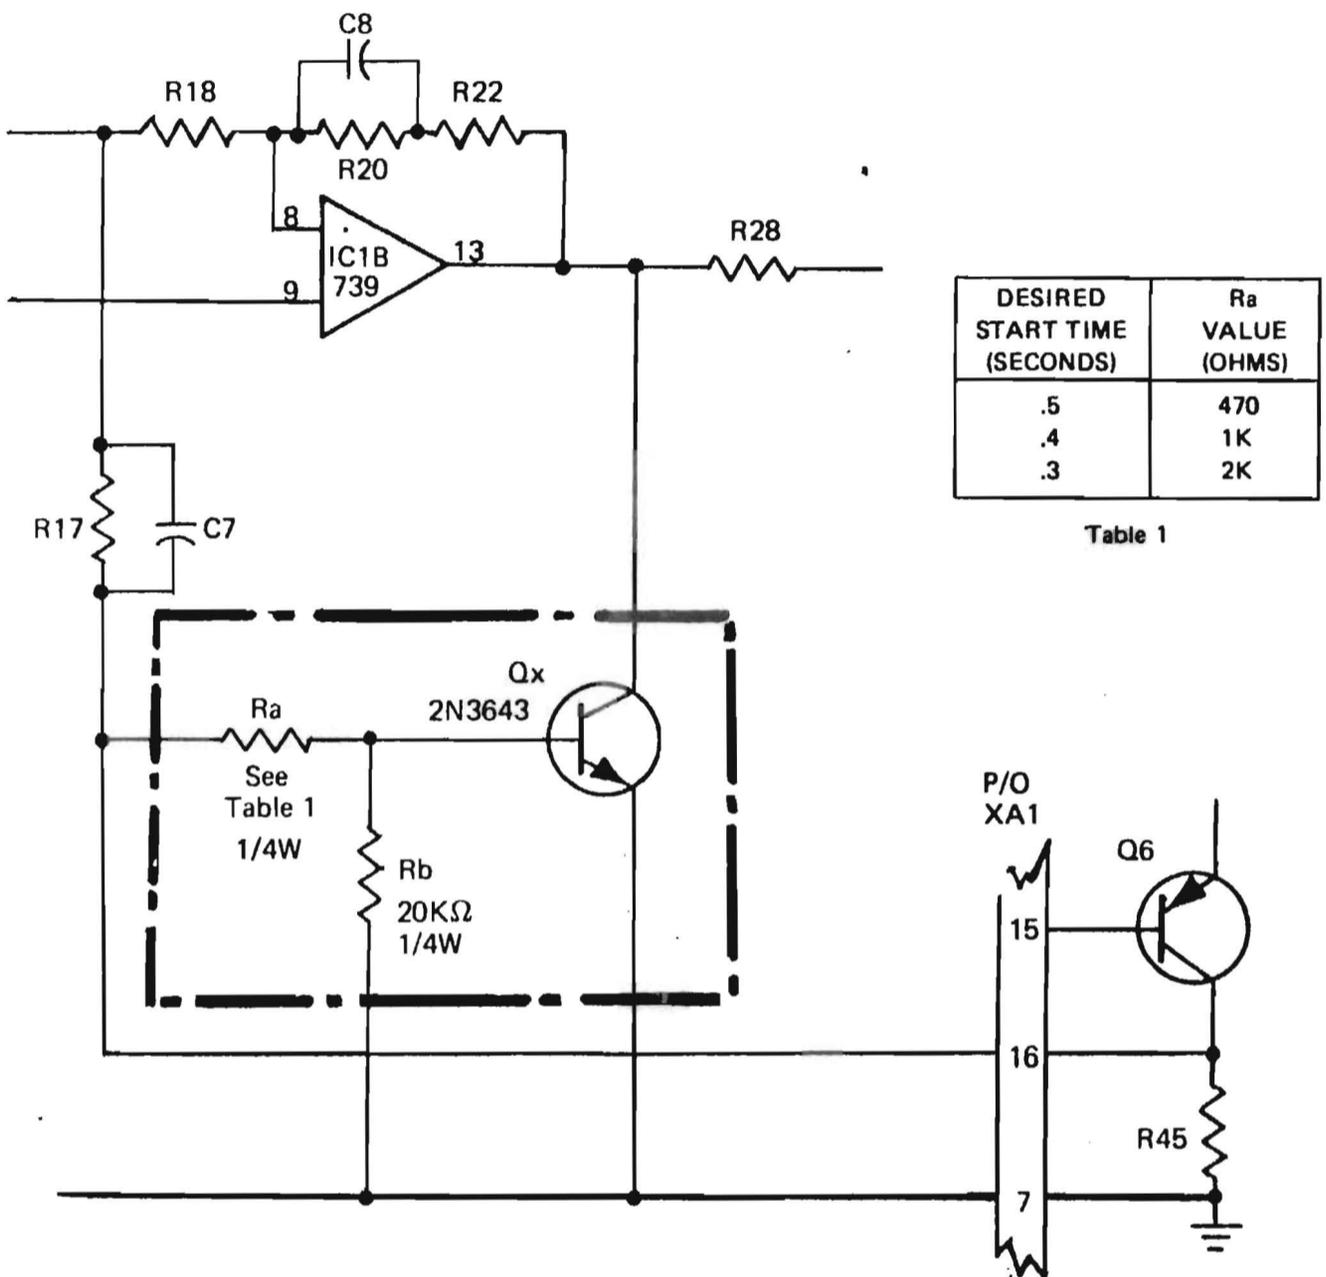

FIGURE 6
7. Modify Capstan Servo p.c. board (see figure 6).